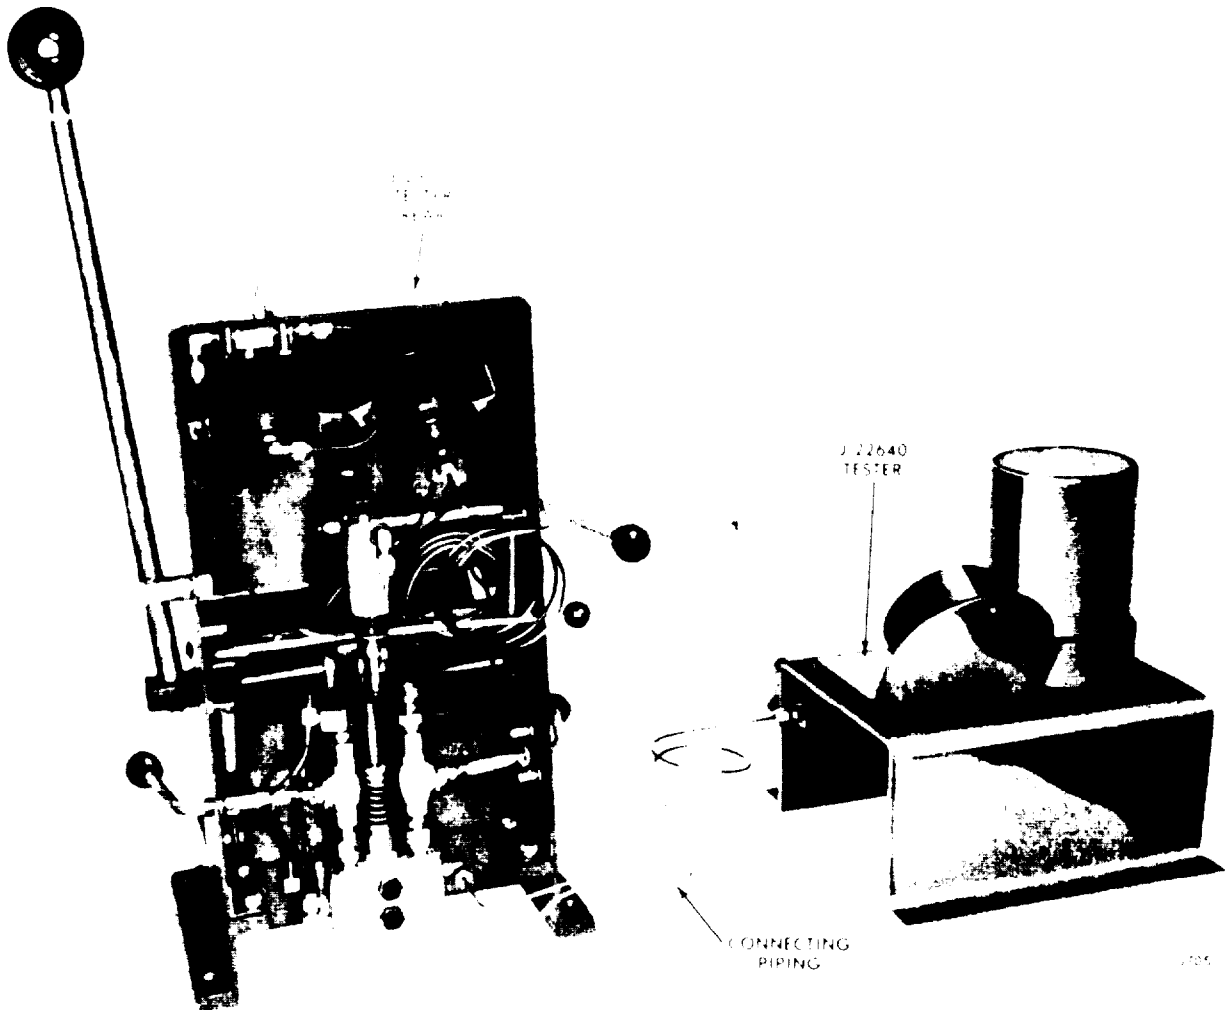

Figure 11C-18. Injector Needle Tester with Auxiliary Tester J 22640
2. Assemble cleaned injector parts, including the check valve cage, spring, spring cage and spray tip assembly, on the auxiliary tester J 22640 (see Figure 11C-19 on page 11C-13).